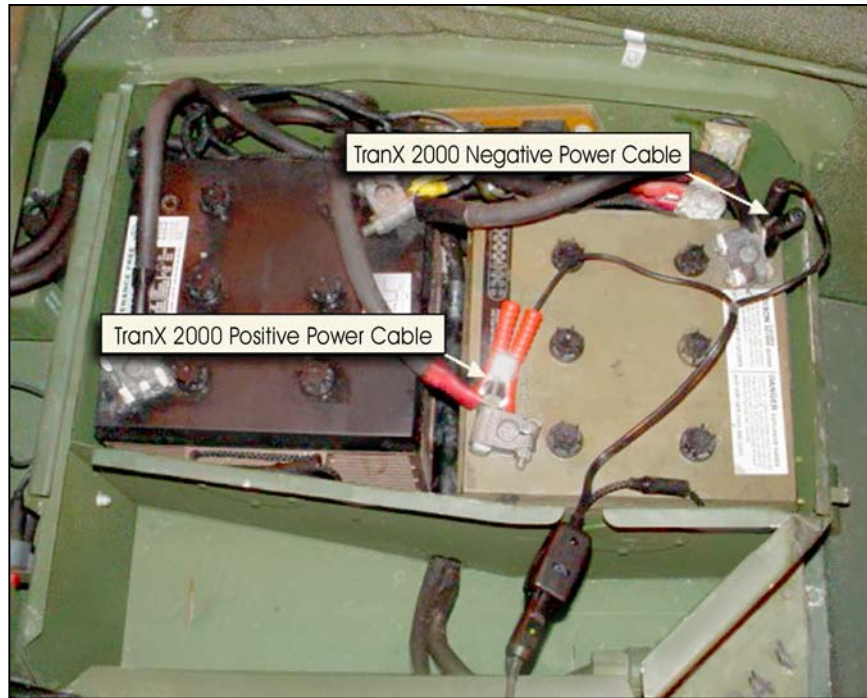

Figure 1 Correct Battery Connections
- When using the battery adaptor cable to supply power to the transmission tester, connect the black cable to a suitable ground and clip the red cable to a positive 12 volt battery terminal (see Figure 1). Do not ground the black cable by clipping it to the negative post on a *second* 12 volt battery.